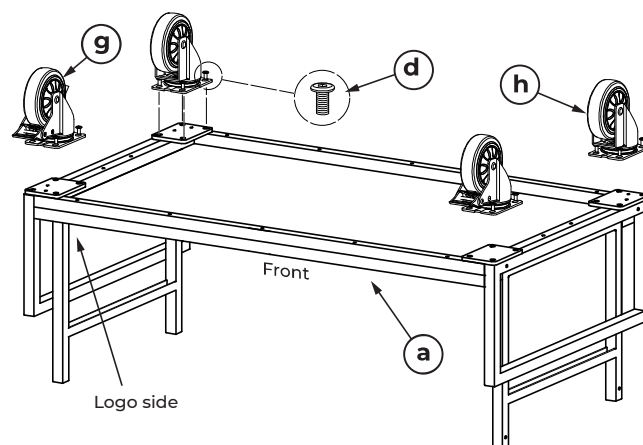

Figure 2
1. Turn the Base Assembly over on a flat surface to install the Casters. Attach the Casters to the Base Assembly (a) using four (4) Allen Screws (d) at each corner. The Locking Casters (g) are mounted on the side of the Base Assembly (a) with the Rosseto logo. Once Locking Casters are installed, then affix the Non-locking Casters (h). See Figure 2 below.